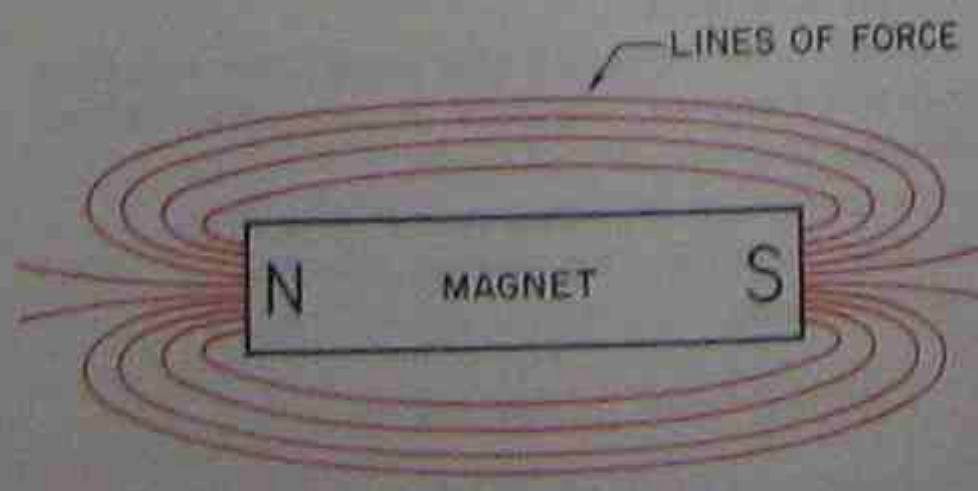

Figure 11-5. Permanent magnet with lines of force.
Magnets are common objects with many uses. Magnets have poles usually designated as the north (N) pole and the south (S) pole. They also have fields of force. Figure 11-5 shows the lines of the field of force around a permanent bar magnet. This field causes the like poles of two magnets to repel each other and the unlike poles to attract each other.